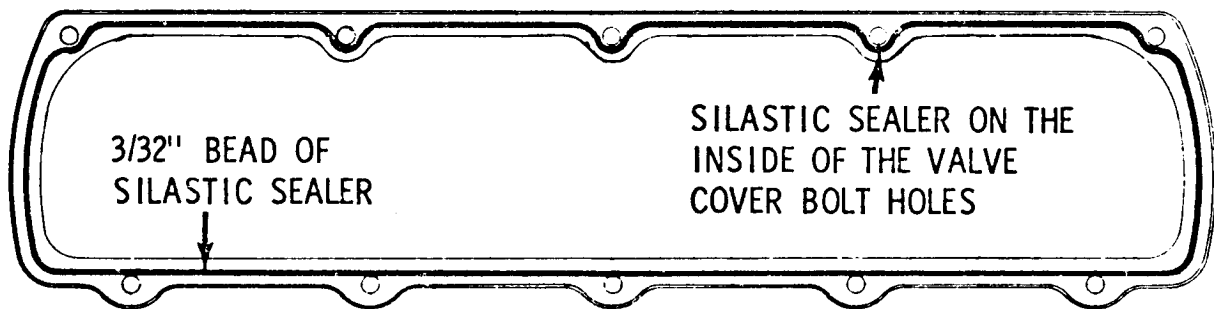

FIGURE 1
5. Using Tube Wringer J-25027 apply a 3/32" bead of silastic sealer on the valve cover gasket surface as shown in Fig. 1. Be sure to run a continuous bead on the inside of the valve cover bolt holes and be sure that there is no gap in the sealer bead.